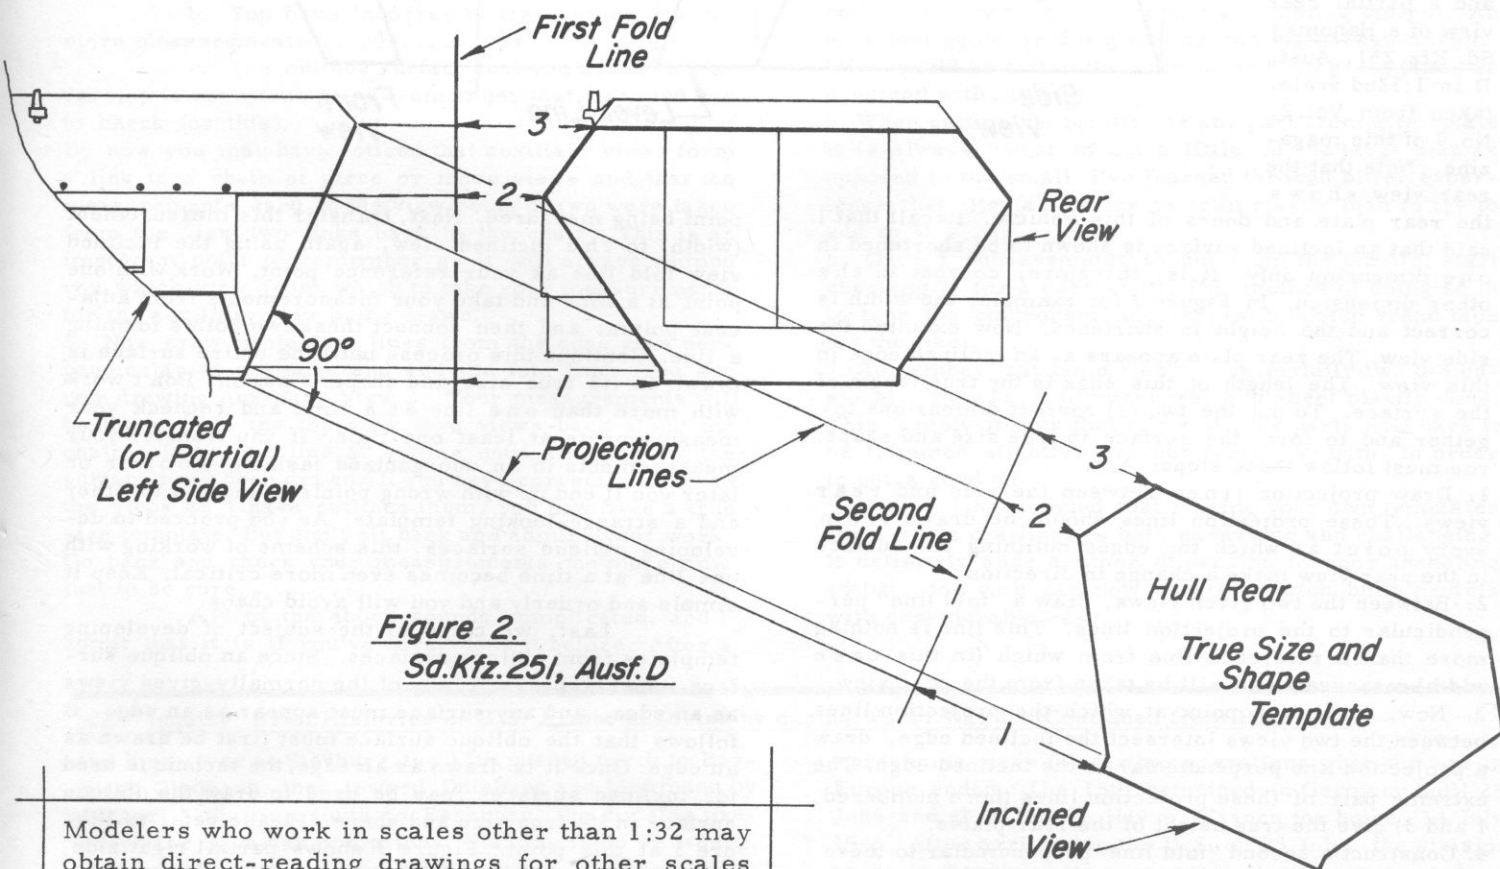
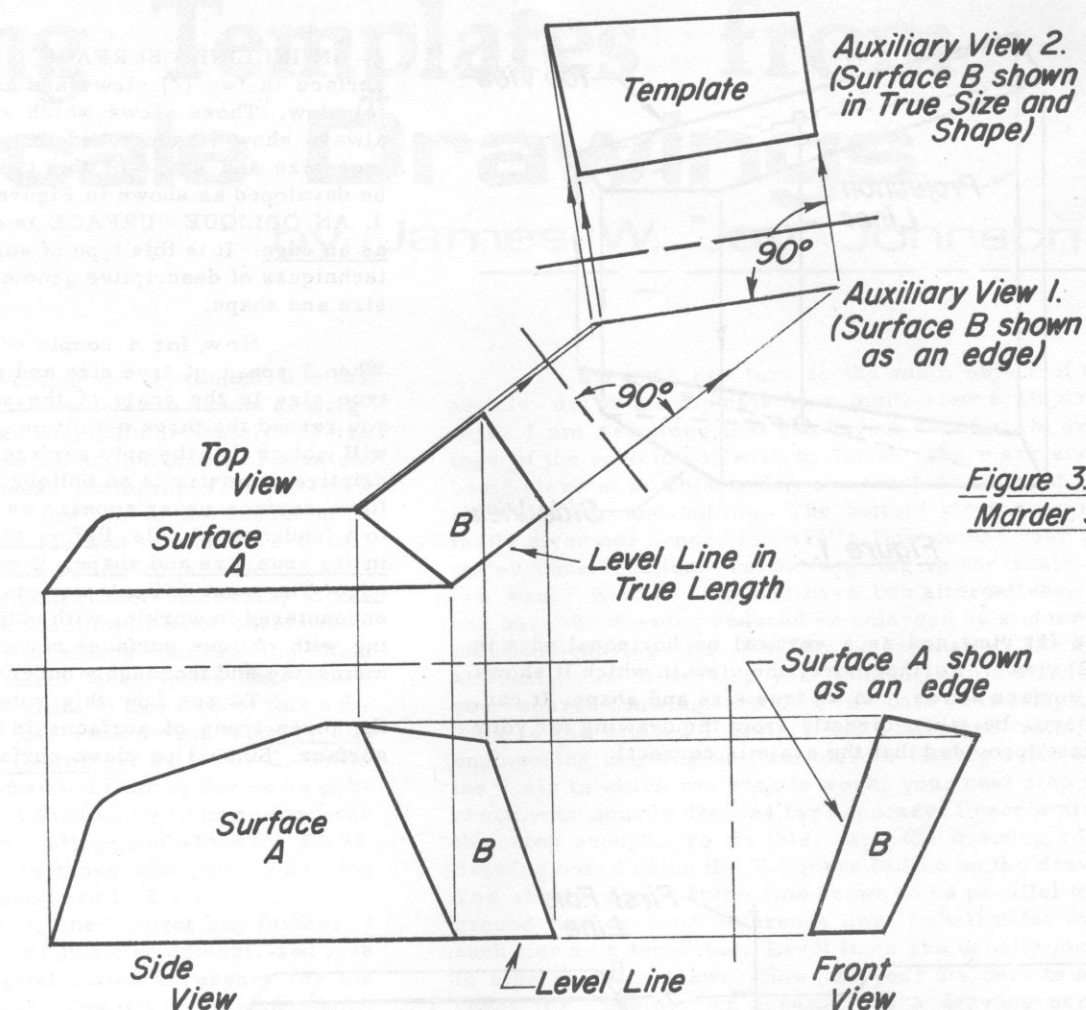

Figure 2.
Figure 3.
2. AN INCLINED SURFACE is one which shows as a surface in two (2) views and as an inclined edge in one (1) view. Those views which show this type of surface always show it shortened in one dimension only. The true size and shape of this type of surface will have to be developed as shown in Figure 2.
Next we tackle drawing a template from an inclined surface... Refer back to the definition and you will see that it appears as an edge in only one view and that the edge is inclined, i.e., neither vertical or horizontal. Figure 2 depicts a truncated left side view and a partial rear view of a Hanomag Sd. Kfz. 251, Ausf. D in 1:32nd scale, taken from Vol. 2, No. 9 of this magazine. Note that the rear view shows
the rear plate and doors of this vehicle. Recall that I said that an inclined surface is shown to be shortened in one dimension only. It is, therefore, correct in the other dimension. In Figure 2 for example, the width is correct and the height is shortened. Now examine the side view. The rear plate appears as an inclined edge in this view. The length of this edge is the true length of the surface. To put the two (2) correct dimensions together and to form the surface in true size and shape, you must follow these steps:
Last, we come to the subject of developing templates from oblique surfaces. Since an oblique surface never appears in any of the normally-given views as an edge, and any surface must appear as an edge, it follows that the oblique surface must first be drawn as an edge. Once it is drawn as an edge, the technique used for inclined surfaces may be used to draw the oblique surface in its true size and shape. Please refer to Figure 3 at this point. Figure 3 shows partial right side, top and front views of the "Marder 38(t)" (Sd. Kfz. 138, Ausf. M) as it appeared in Vol. 3, No. 12 of AFV-G2. For those of you who have copies of this drawing, you may note that I have rearranged the layout of these partial views for convenience. This figure shows two surfaces; Surface A is an inclined surface, and Surface B is an oblique surface. As can be seen in the drawing, you will have to draw two (2) auxiliary views to get an oblique
3. Draw projection lines (from the view which shows the level line in its true length) parallel to this line and, as usual, draw a fold line perpendicular to these projection lines. Remember to draw a projection line from every point on the oblique surface. These projection lines and the fold line comprise what is labeled Auxiliary View 1. in Figure 3.
little practice, however, you'll find that the rules and instructions are easily remembered and that developing templates of inclined and oblique surfaces becomes almost as easy as tracing directly from the source drawing. As an exercise, may I suggest that you trace the two views from Figure 2 and the three views from Figure 3 onto a sheet of tracing paper. Once you've finished the development of the auxiliary views, compare the results with mine. Also note that Surface A in Figure 3 is an inclined surface. As a further exercise, you might try to develop a template for Surface A from the given views. What follows is a summary and a few tips about working with the templates once they have been drawn. Good luck and have fun.....
3. Is the set of source drawings laid out in such a manner that you can draw your projection lines directly from one related view to another? If not, you may have to cut-up the original set and paste them back together in an order which lends itself to drawing your projection lines as I did in Figure 3. Use your T-Square and triangles to line-up these views.